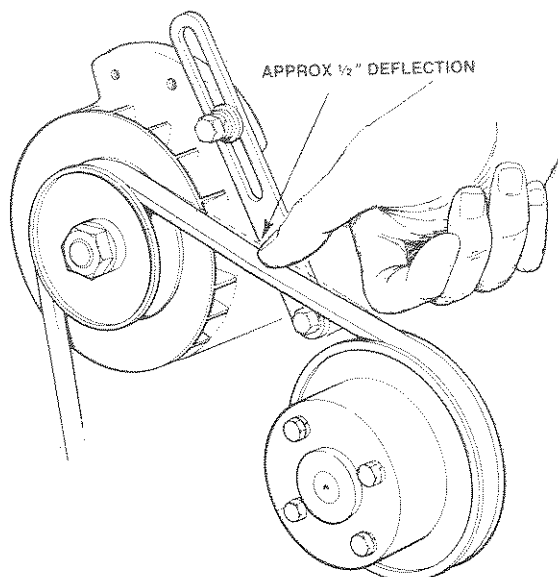

Figure 14.
4. Alternator Belt and Water Pump Tension (See Figure 14)